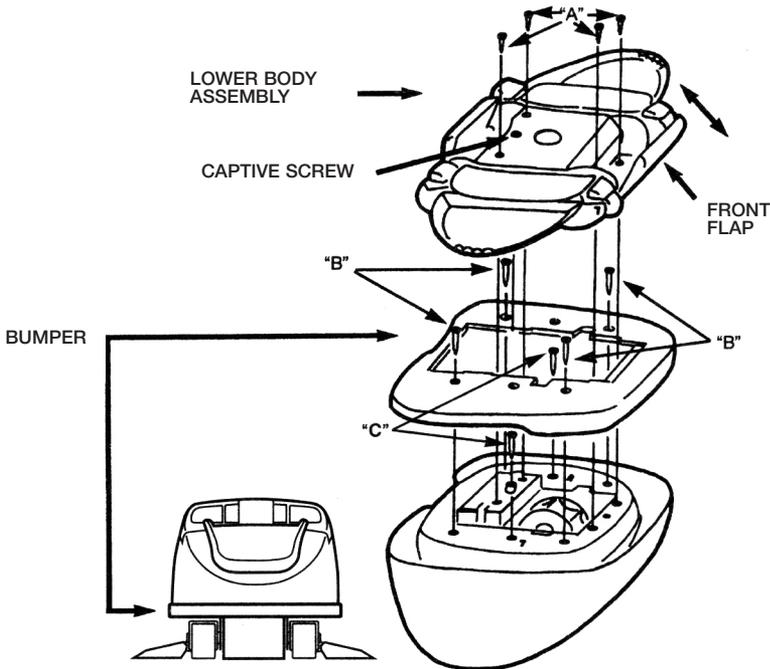

Figure 13
- e) Locate and loosen the captive screw behind the throat in the center of the bottom (see Figures 13, 14 & 15).
- g) Remove four (4) “A” screws (see Figure 13).
- h) Lift the Lower Body Assembly off the Pool Vac Ultra (see Figure 13).
- i) Remove four (4) “B” screws (see Figure 13).
- k) Remove two (2) “C” screws (see Figure 13).